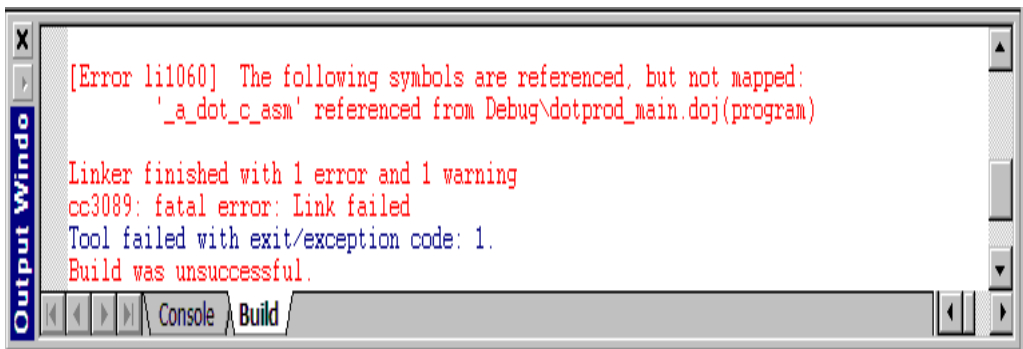

Figure 2-17. Output Window: Linker Error
4. Notice the error in the **Output** window (Figure 2-17).